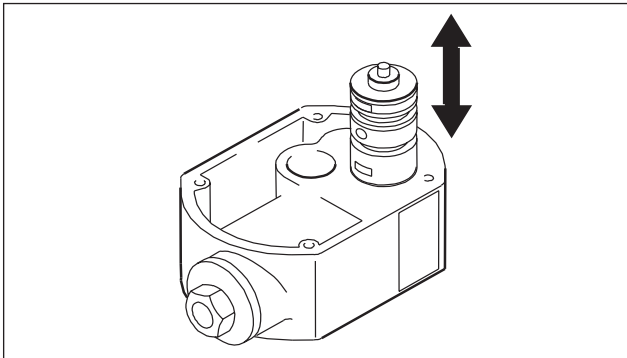

Fig. 16: Assembly of internal control valve
- The air control valve is replaced as a complete unit (Fig. 16).